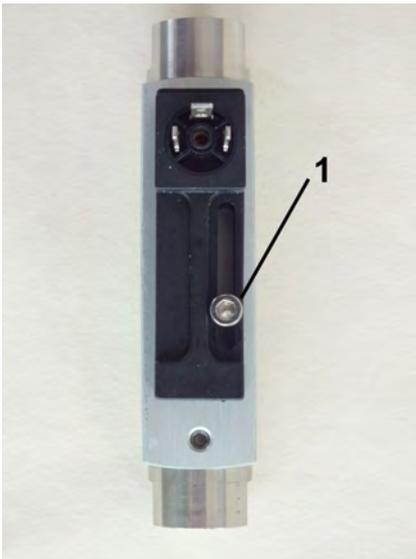

Fig. 33: Loosen set screw
1.  Loosen the set screw of the switch contact (Fig. 33/1) using a hex screwdriver.
6.  Re-tighten the set screw of the switch contact (Fig. 33/1) using a hex screwdriver. When doing so, observe the correct tightening torque of the screw.